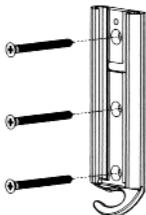

FIG. 2
5. Place the wall plate back against the wall and attach it using the drywall screws (A) provided in the hardware kit (see Fig. 2)
5. Place the wall plate back against the wall and attach it using the drywall screws (A) provided in the hardware kit (See Fig. 2). Do not over-tighten these bolts and do not release the wall plate until all bolts are in place. Ensure that the wall plate remains level after all bolts are secured.